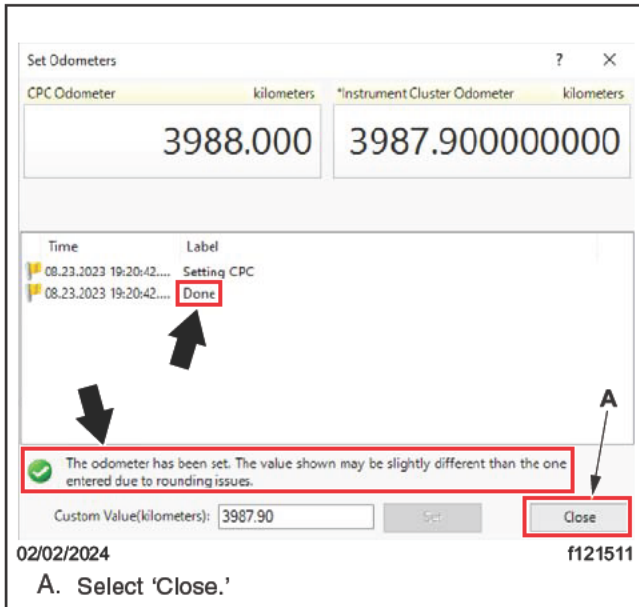

Fig. 36, Odometer Synchronization Completed
- 17.10 Once the odometer synchronization is complete, the label indicates 'Done,' and a message is displayed: 'The odometer has been set up.' Select the 'Close' button. See Fig. 36.